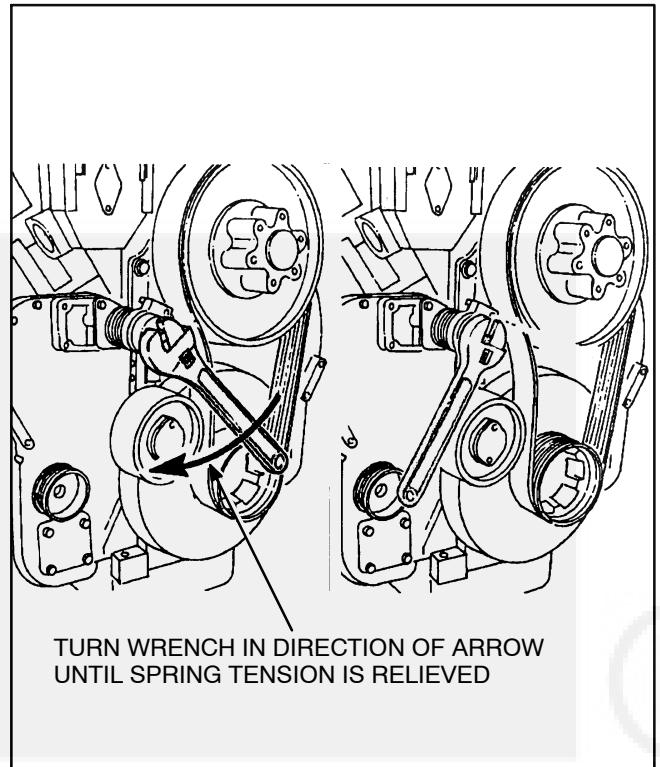

FIGURE 7-4. IDLER SPRING
3. Use an 8-point socket and breaker bar or a large wrench to hold the idler in position against the spring tension. Slowly turn the wrench until the spring tension is relieved (Figure 7-4). Remove the fan belt.